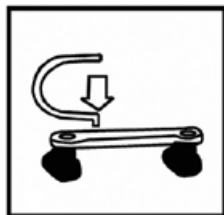

Fig. 1
2. Screw the wheels in the bottom strips, and lace the curved end of the yoke in the opening in each strip (Fig. 1).